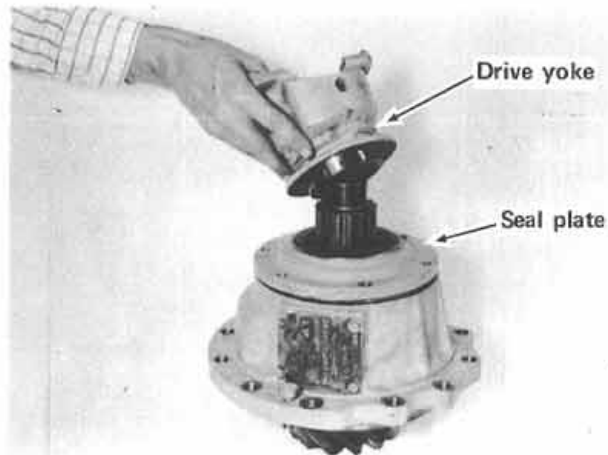

Figure 18
Step 19 Pull the drive yoke from pinion shaft. (see figure 18)
Step 20 Remove the seal plate from the pinion shaft. (see figure 18)